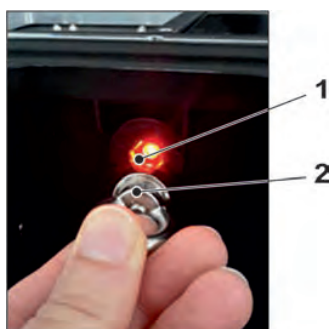

Fig. 31-1 Waking up the NivuFlow Mobile
2. "Wake up" NivuFlow Mobile: to do this, hold the supplied magnet (Fig. 31-1 Pos. 2) in front of the Reed contact (Fig. 31-1 Pos. 1; at the front of the NFM) until the LED lights up.